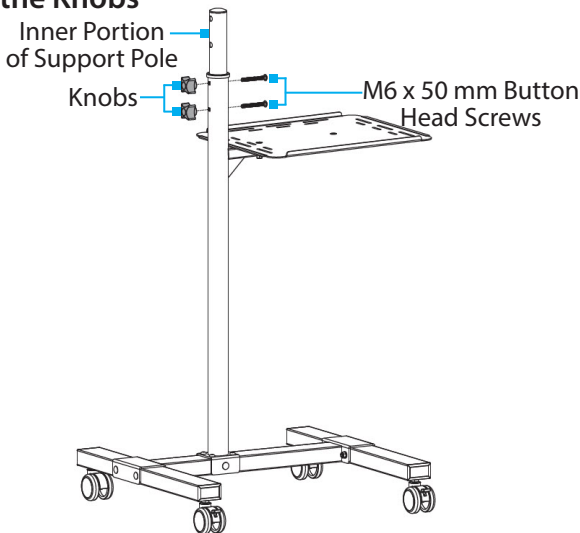

Figure 6
3. Insert two **M6 x 50 mm Button Head Screws** through the two holes located in the outer portion of the **Support Pole**. (Figure 6)